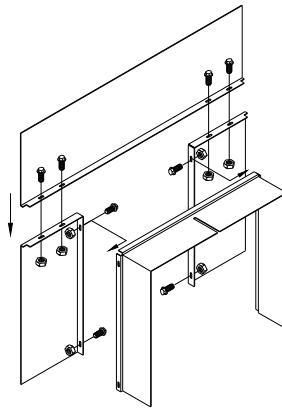

Figure 2.5a
3. Line up the holes of the side and top panels and secure with the screws, washers and nuts. (see Figure 2.5a)